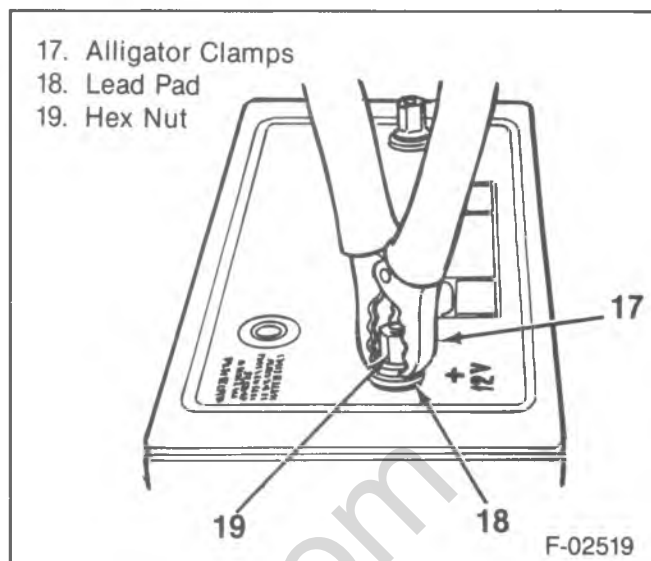

Figure 5—Testing and Charging Using Top Terminal Adapter
4. Attach terminal hex nuts, AC Delco # 7802, or equivalent (figure 5).
5. Attach the alligator clamps of the tester or charger between the terminal nuts and the load pads of the terminal studs (figure 5).